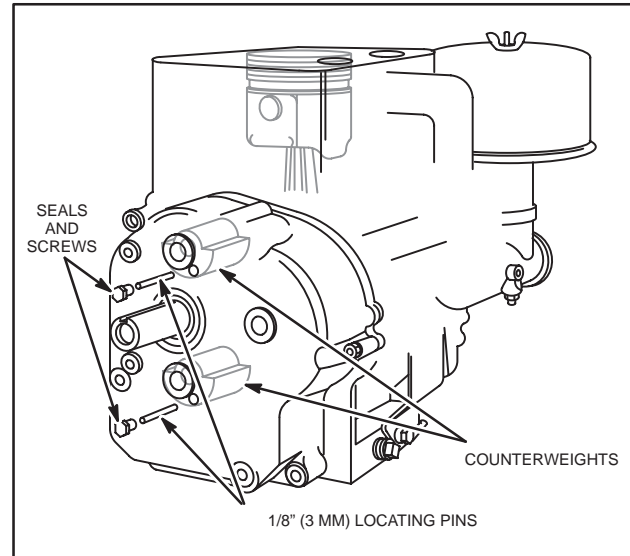

Fig. 187 – TIMING COUNTERBALANCE GEARS
1. Remove two small screws from cover and insert 1/8" (3 mm) diameter locating pins or breather screws and extended dipstick tube screw through screw hole and into timing hole provided in counterweights, Fig. 187.